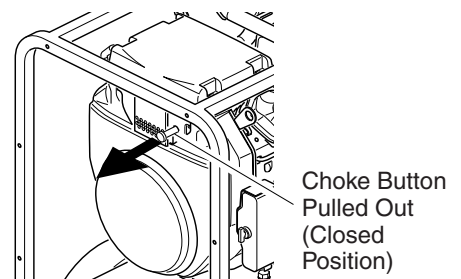

Figure 17 - Choke Button Closed
2. Pull choke button out (see Figure 17). This closes the choke.